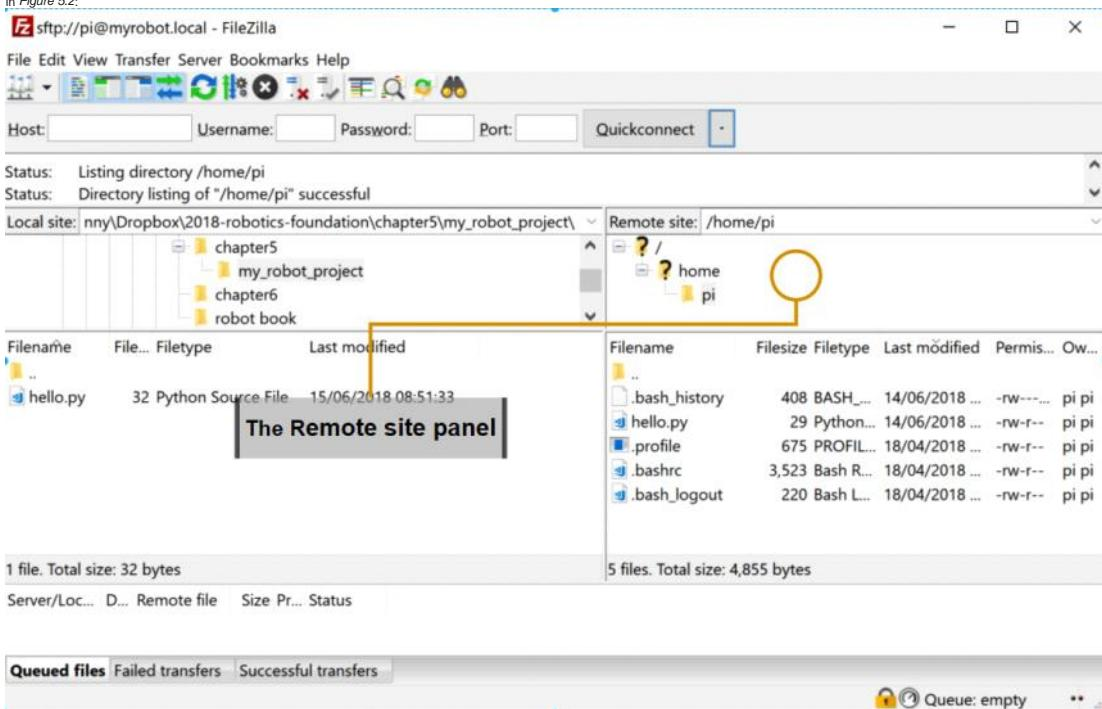

Figure 5.2 – The Raspberry Pi connected
8. When connected, you'll see files on the Raspberry Pi in the right-hand **Remote site** panel, shown in Figure 5.2.